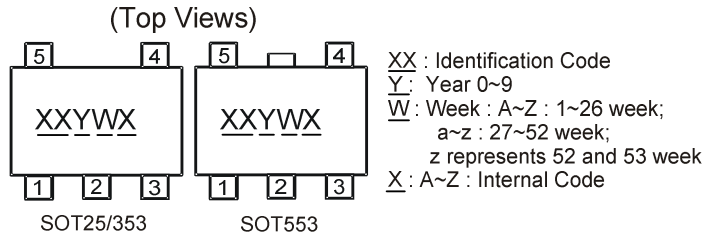

**Figure 1 Load Circuit and Voltage Waveforms**
**Switching Characteristics** (Figure 1, Typical Values at  $T_A = +25^\circ C$  and Nominal Voltages 1.8V, 2.5V, 3.3V, and 5.0V.)